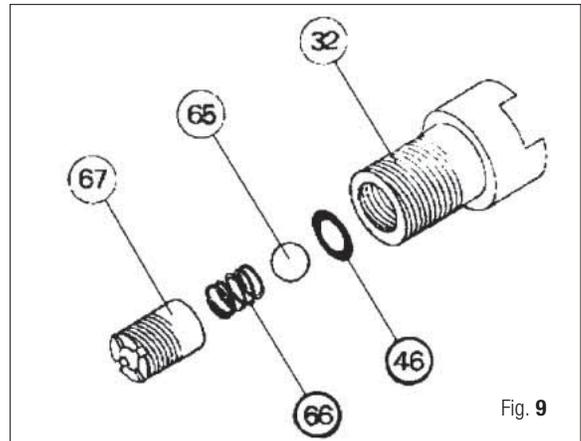
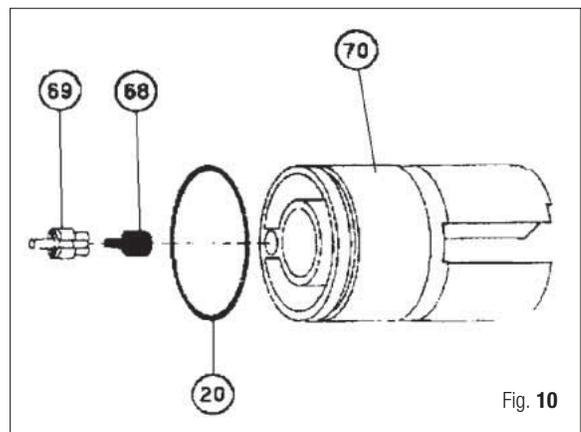

Fig. 9
Fig. 10
26. Remove line retainer pin (43) with a pin punch, then remove line retainer (42).
28. With a Philips screwdriver, remove the inlet bushing (67) and spring (66) (Fig. 9).
29. Remove ball (65) from the inlet valve body (32).
30. Remove O-ring (46) from the inlet valve body.
31. Slide handle (41) rearward off of the barrel (26).
32. Remove O-ring (37) from O-ring seat (39) of the power adjustment rod.
33. With a 7 mm wrench, unscrew power adjustment rod (34-35-37-39) from power adjustment lever (38).
**NOTE** IF THE O-RING SEAT (39) UNSCREWS FROM POWER ADJUSTMENT ROD (35), THE ROD MUST BE COMPLETELY REMOVED FROM POWER ADJUSTMENT LEVER (38) BY CLAMPING THE ROD WITH PLASTIC JAWS AND ROTATING THE HANDLE COUNTER- CLOCKWISE TO UNSCREW THE POWER ADJUSTMENT ROD. AFTER REMOVING THE POWER ADJUSTMENT ROD PUT A DROP OF O-RING COMPOUND (LOCTITE 270) IN THE THREADED HOLE OF O-RING SEAT (39) AND TIGHTEN IT SECURELY ON THE POWER ADJUSTMENT ROD (35).
34. Remove power adjustment rod (35-39) and spring (34) from handle (41).
35. Remove spring (34) from power adjustment rod.
36. Remove power adjustment lever (38) from handle (41).
37. Remove the power adjustment rod bushing (36) and O-ring (37) from handle.
38. Remove O-ring (20) from handle.
39. With a pin punch, remove catch hook pin (53), catch hook (50) and spring (44) from the barrel (26).
41. Remove one-way housing (69) and one-way seat (68) from power regulating block (Fig. 10).
42. Remove O-ring (20) from power regulating block.
43. Remove O-ring (71) from barrel with tool A-7.
44. Remove snap ring (72).
**NOTE** IT IS NOT NECESSARY TO REMOVE THE SNAP RING (72) DURING ROUTINE SERVICE, UNLESS IT OR THE BARREL IS TO BE REPLACED.
45. Remove barrel (26) from the jaws.
6. Insert the one-way seat (68) into the power regulating block (70) (Fig. 10).
21. Position o-ring (46) in inlet valve body (32) seat, with tool (A-13) (Fig. 9).
22. Center the inlet ball (65) on o-ring (46).
23. Place spring (66) inside of the inlet bushing (67).
**NOTE** APPLYING A SMALL AMOUNT OF GREASE ON THE SPRING (66) WILL RETAIN THE SPRING IN THE INLET BUSHING (67) DURING ASSEMBLY.
24. Tighten inlet bushing (67) into valve body (32) using a Philips screwdriver.